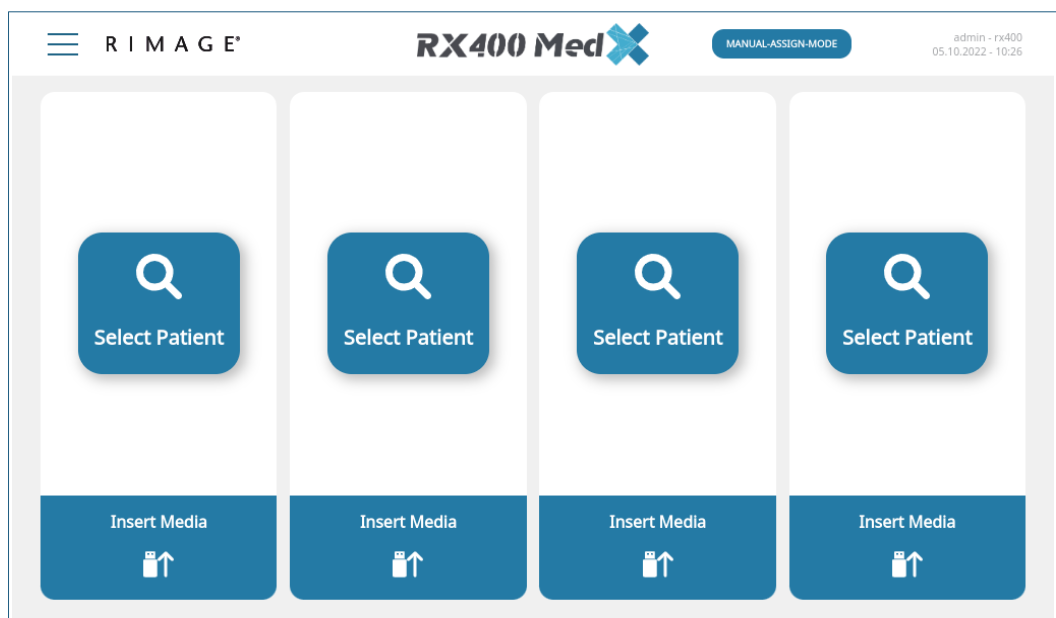
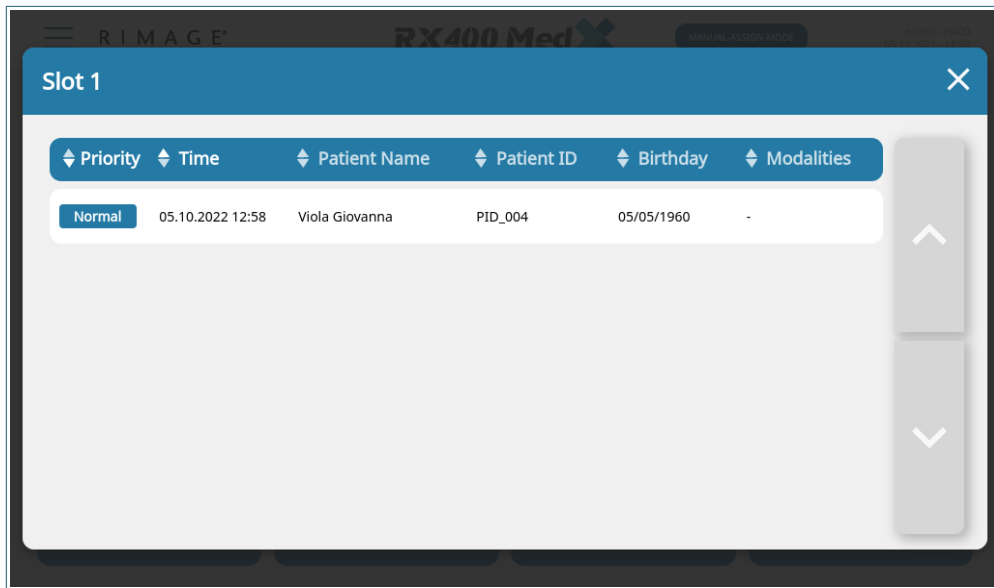
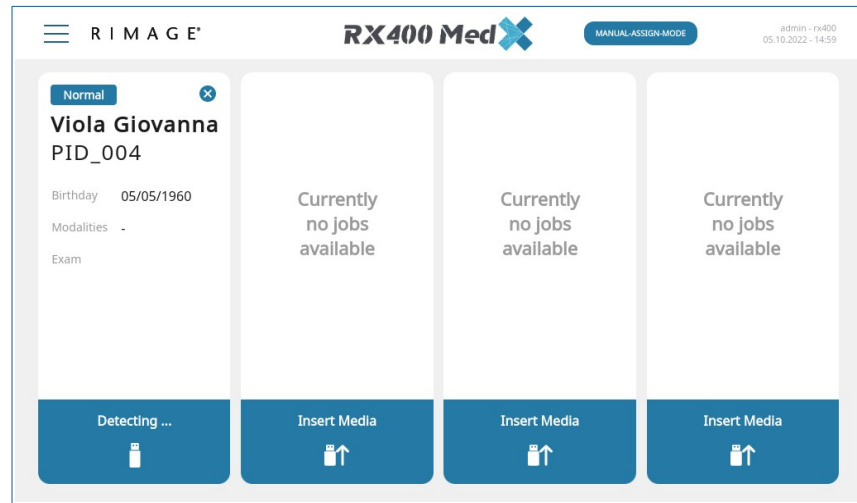

Figure 20: Home screen with running tickets
Figure 28: Job Select List
Figure 29: Slot Overview
In Manual Assign Mode, when at least one ticket is available and in a running state, the **Select Patient** button displays on the home screen (see figure 20). Tap this button to open the **Job Select** list (see Figure 28).
The parameters displayed both in the **Job Selection List** (see Figure 28) and the **Slot Data Overview** (see Figure 29) can be defined in the settings under **Card**.
In the **Manual Assignment Mode**, the presence of pending jobs is indicated by the Select Patient button (Figure 20, page 23), which is shown on all free slots, no matter if an USB Stick is inserted or not.
2. The **Job Select List** appears. (Figure 28 , page 29).